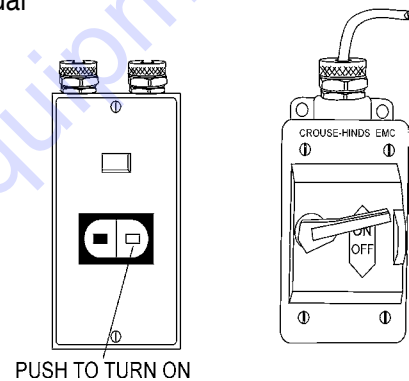

Figure 16. Power ON/OFF Switch (ON)
1. Turn the power ON/OFF switch (Figure 16) to the ON position with the blade away from the material to be cut, the cutting blade should begin to rotate. Before cutting remember to follow all safety rules referenced in this manual